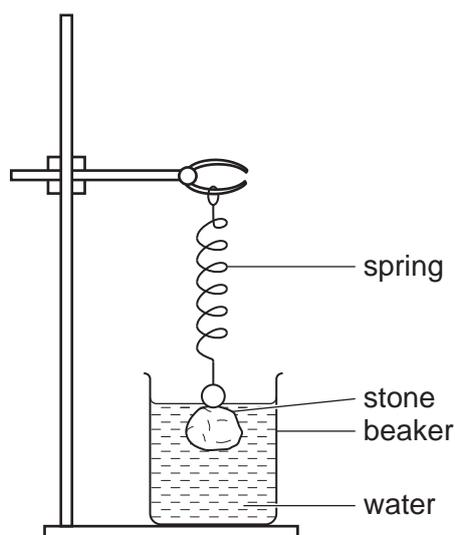

Fig. 7.2
- Slowly lower the clamp until the stone is just completely immersed in the water, as shown in Fig. 7.2.